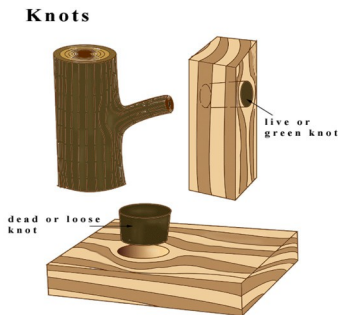

Fig. 125. Knots
1. **Knots:** An embedded limb and branch of the tree. It reduces the strength but, in some cases, may add to the appearance (figure 125).